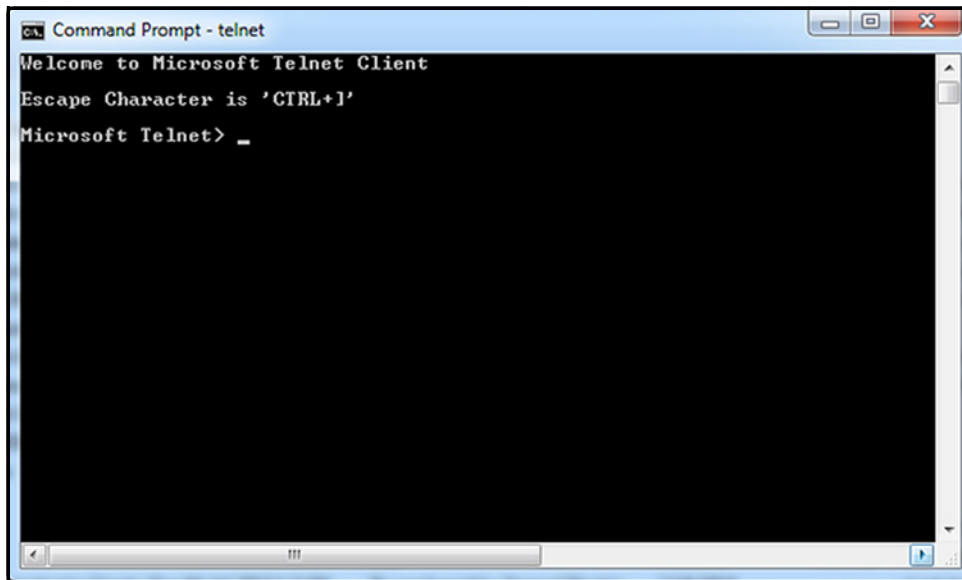

Figure 74: Telnet Client
1. At a Windows command prompt, enter telnet to run the Telnet client (see *Figure 74* below).